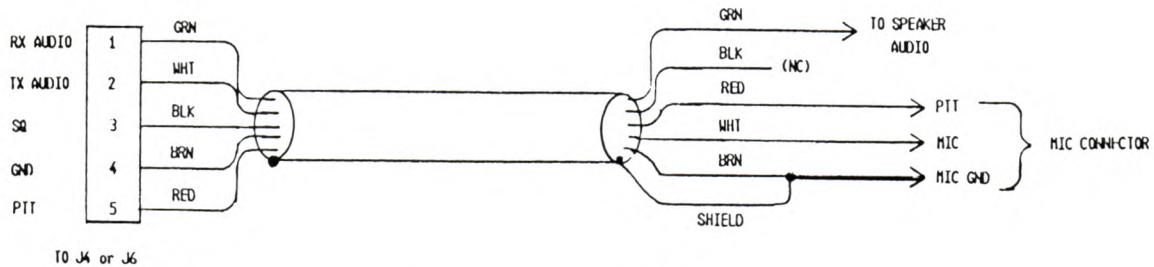

Figure 2-3 Radio-to-PK-232 Connections
3. Verify that your PK-232 and FM radio are connected as shown in Figure 2-3 below.